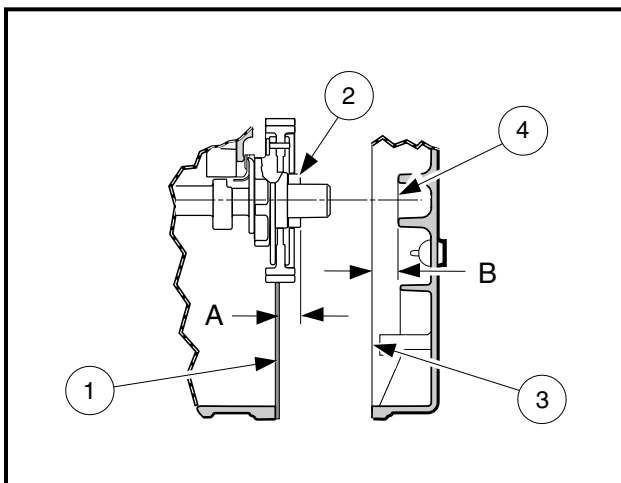
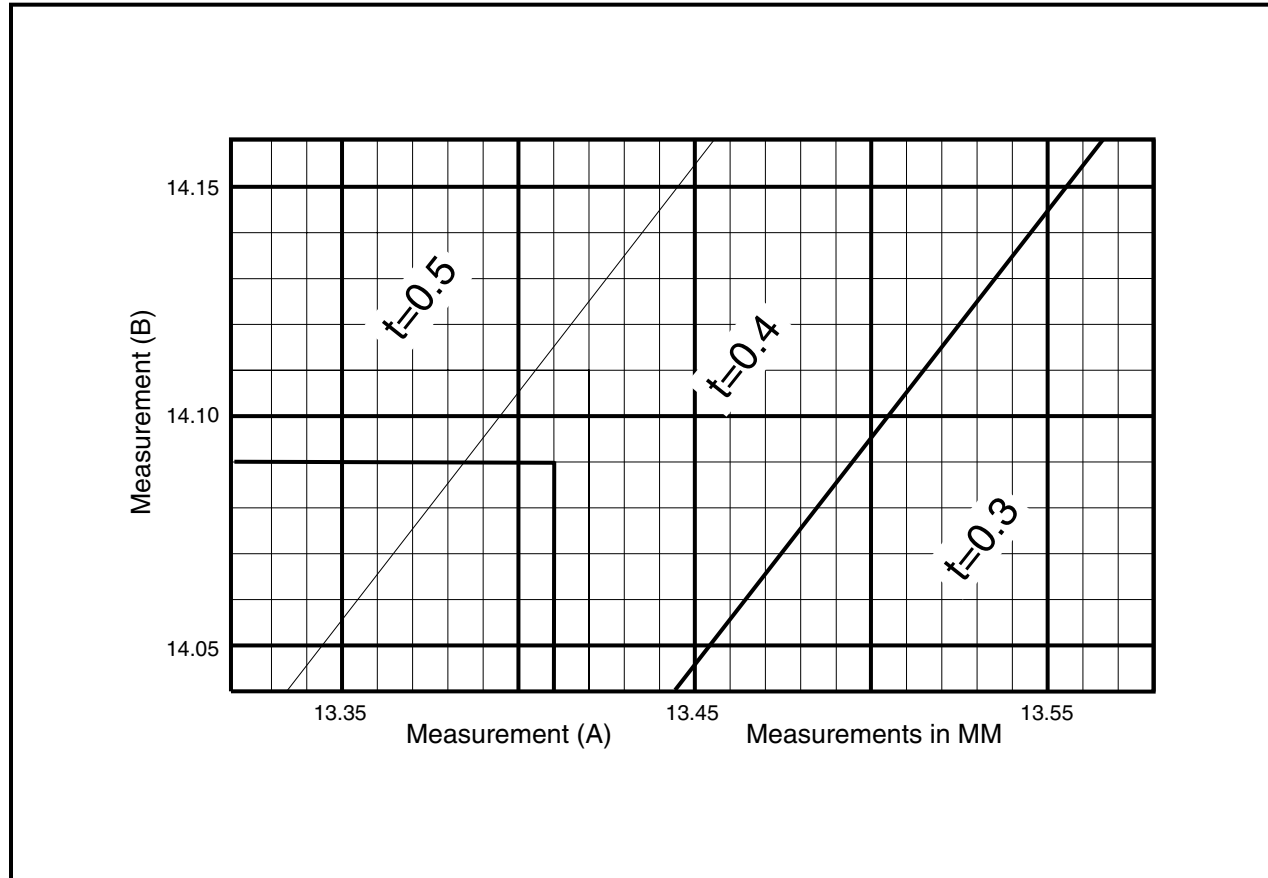

Figure 13-102 Measurements to be Recorded for Camshaft Shim Table
Figure 13-104 Camshaft Shim Table
1. With the gasket (1) installed on the crankcase, measure from the gasket surface to the camgear surface (2). Record this measurement (A) (**Figure 13-102, Page 13-47**).
2. Measure from the crankcase cover (3) mounting face to the camshaft bearing inner end (4). Record this measurement (B).
3. Locate the measurements on the Camshaft Shim Table. Follow the lines to where the recorded measurements intersect (**Figure 13-104, Page 13-48**).